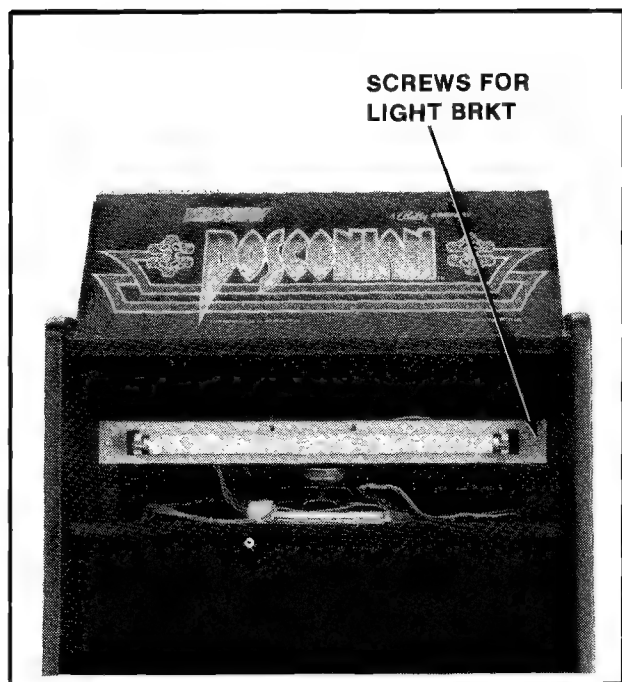

Figure 23 Replacing fluorescent tube mounting bracket — Upright game
- Replacement of the fluorescent tube mounting bracket assembly. See Figure 23.